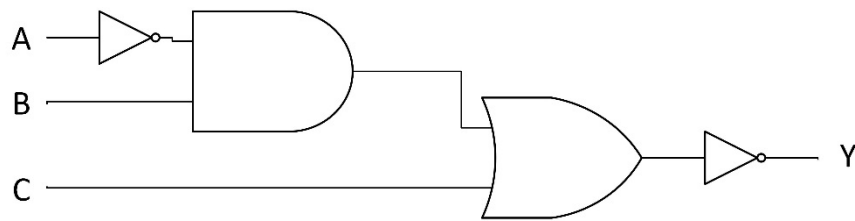

Figure 1
5. Write the Boolean equation for the logic diagram in Figure 1.